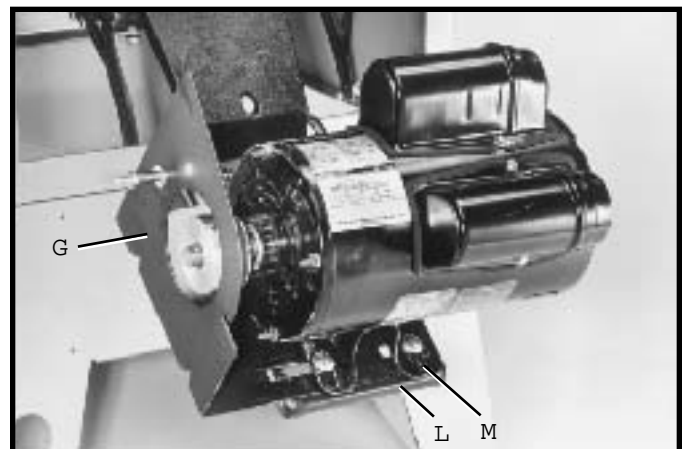

Fig. 18
4. Slide the belt and pulley guard bracket (G) Fig. 18, between the motor plate (M) and motor mounting plate (L), as shown.